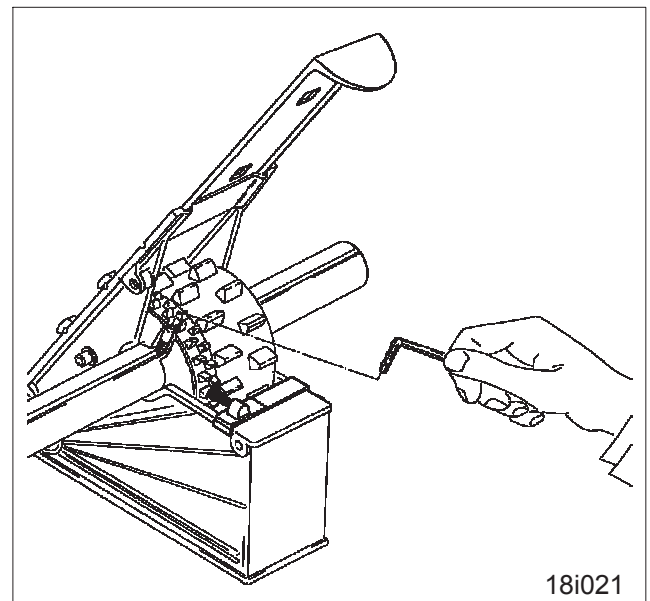

Fig. 18.26
- The seeding wheels driven by the seed drill shaft (Fig. 18.26) are fastened to the seed drill shaft by threaded pins, which are inserted into the fine seeding metering wheels. Release threaded pins of the new tramline seeding wheels (see Fig. 18.26), until the new tramline seeding wheel rotates freely on the seed shaft.